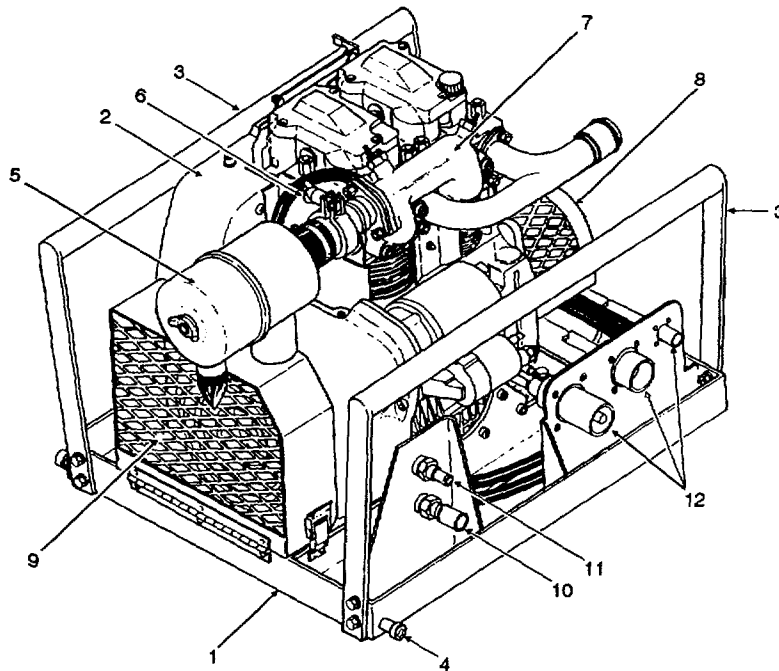

Figure 1-3. Engine Module
- f. A detachable flexible coupling (10) connects the engine output shaft to the fuel transfer pump input shaft.
- g. A 1.2 gallon (4.5 liter) fuel tank (11) provides sufficient fuel to operate the engine for at least one hour fifteen minutes under full load.
- h. A 12 ft (3.65 m) ground cable assembly (12) is stowed on two spools mounted below the fuel tank.
- i. A three-position fuel selector valve (13) allows engine fuel to be supplied from the fuel tank or an external source.
- j. A canister type filter/water coalescer assembly (14) is mounted downstream of the fuel selector valve to remove impurities and water from the fuel before it reaches the engine.
- k. A three-inch, valved unisex coupling (15) at the pump outlet provides connection to a three-inch discharge hose and also serves as an emergency shutoff valve.
- l. An overtemperature sensor (16) located at the underside of the fuel transfer pump outlet will shut down the engine if the pumpage temperature reaches 175°F (79°C).
- m. An engine fuel supply line (17) terminated with a quick disconnect fitting to facilitate removal and installation of the engine module.
- n. An engine fuel return line (18) terminated with a quick disconnect fitting to facilitate removal and installation of the engine module.
- o. Four solid rubber shock mounts (19) to support and isolate the engine and fuel transfer pump from the module frame.
1.9.1.1 Engine Module. (Refer to figure 1-3.)